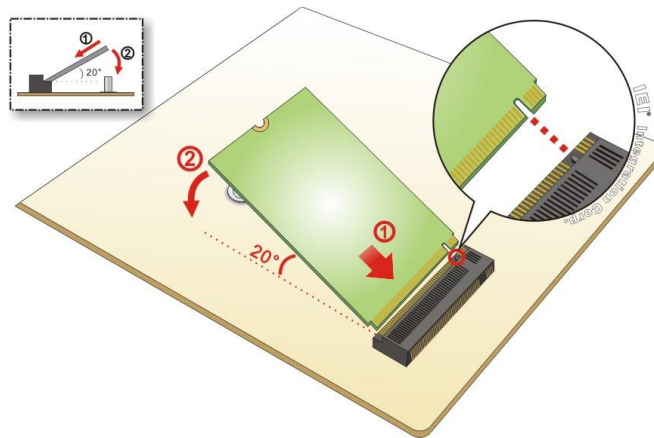

Figure 4-1: Inserting The M.2 Module Into The Slot At An Angle
- Step 3:** Line up the notch on the module with the notch on the slot. Slide the M.2 module into the socket at an angle of about 20° (**Figure 4-1**).